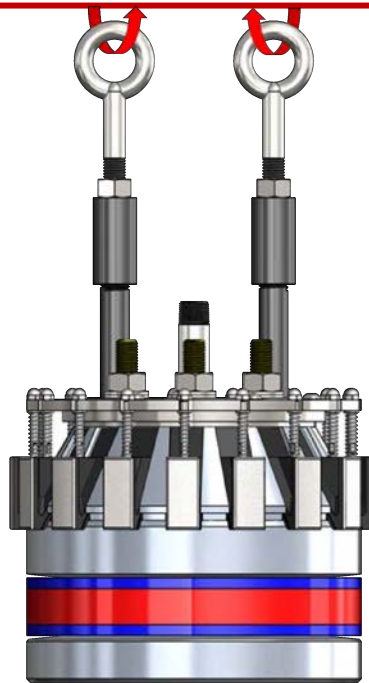

Figure 25: Properly Installed Lifting Eyes for Vertical Lift
- While holding the **Vertical Lifting Eyebolt(30)** in the correct orientation, snug the **Eyebolt Nut(31)** against the top of the **Lifting Standoffs(26)** and turn the **Eyebolt Nut(31)** an additional $\frac{1}{2}$ turn. Do the same to the other **Vertical Lifting Eyebolt(30)** and its nut. See Figure 25 for properly installed eyebolt illustration.